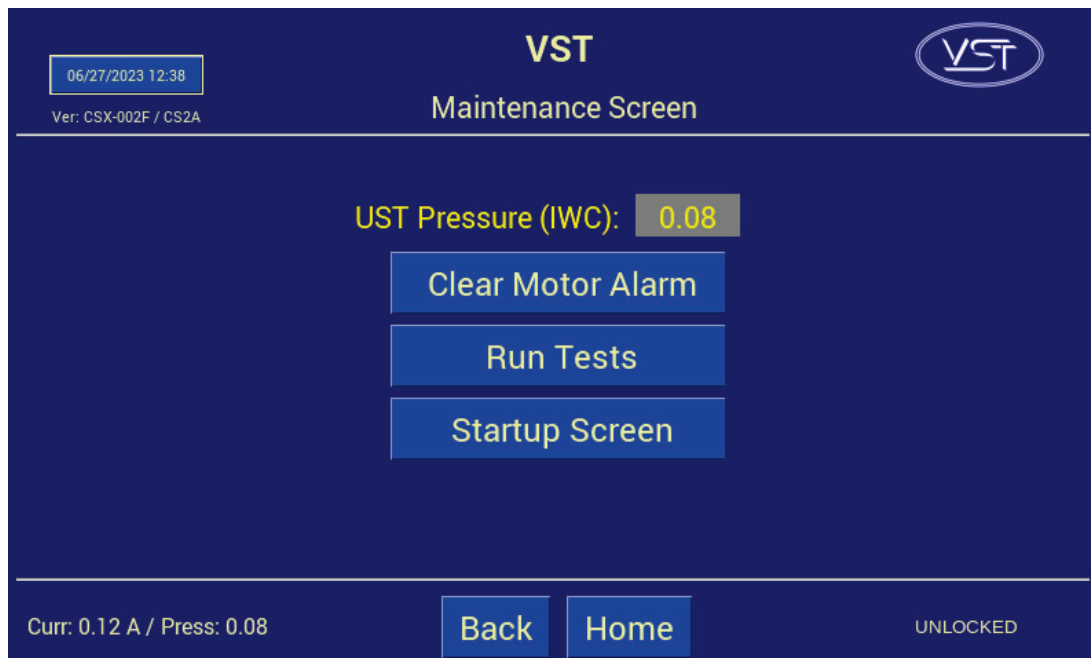

Figure 6-2: Maintenance Screen
**See Figure 6-2.** (The GREEN MACHINE is now in the Manual OFF mode and will not operate.)
1. Press the “Run Tests” button on the Maintenance Screen. **See Figure 6-2.**